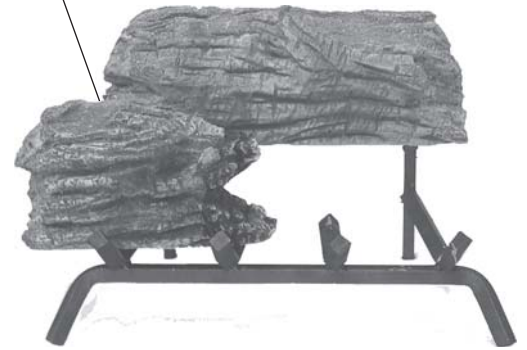

Figure 13 - Placing Front Left Log (#2) on Grate
3. Place front left log #2 on the front of the grate and to the left. *See Figure 13.*